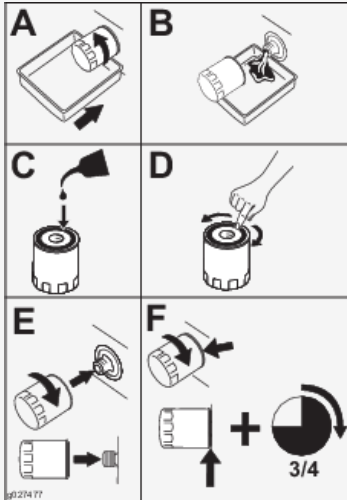

Figure 33
2. Change the engine-oil filter (Figure 33).
3. Locate and remove the spark plug(s) as shown in Figure 33.